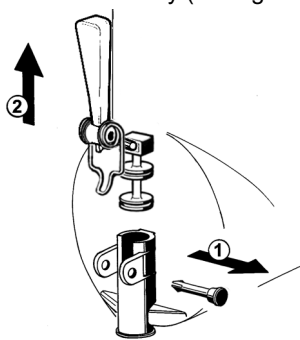

figure 9
- 5 Dismantle the faucet assembly (see figure 9).
- 3 Assemble the faucet by reversing the disassembly steps (see figure 9)